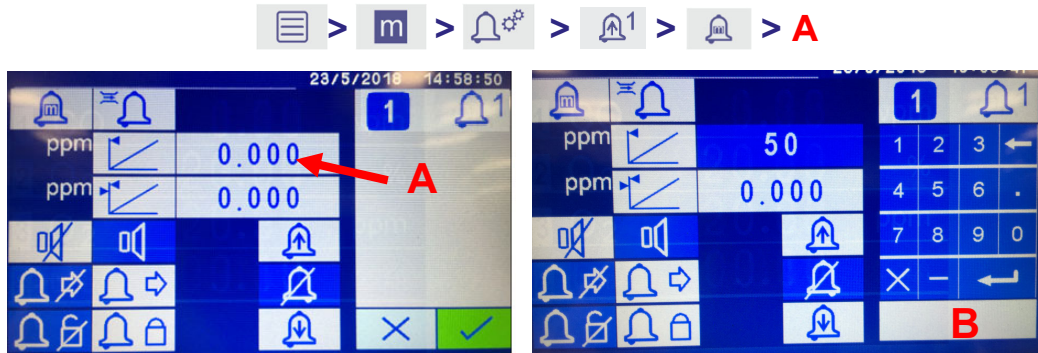

Figure 8-9: Alarm Threshold values set by pressing (A) and number key pad (B).
1. Touch the number to the right of the  icon as shown in Figure 8-9 A.
2. Use the number keypad shown in Figure 8-9 B to type in the threshold value then press  to accept the value or  to cancel the entry.
3. To save the alarm settings to the current alarm, press the  icon shown in the left screen in Figure 8-9 A.
4. To abort the changes and return to the original settings prior to entering the Alarm Setting screen, press the  icon. This icon appears in place of the Return icon  in Figure 8-9 A if changes have been made to the settings.